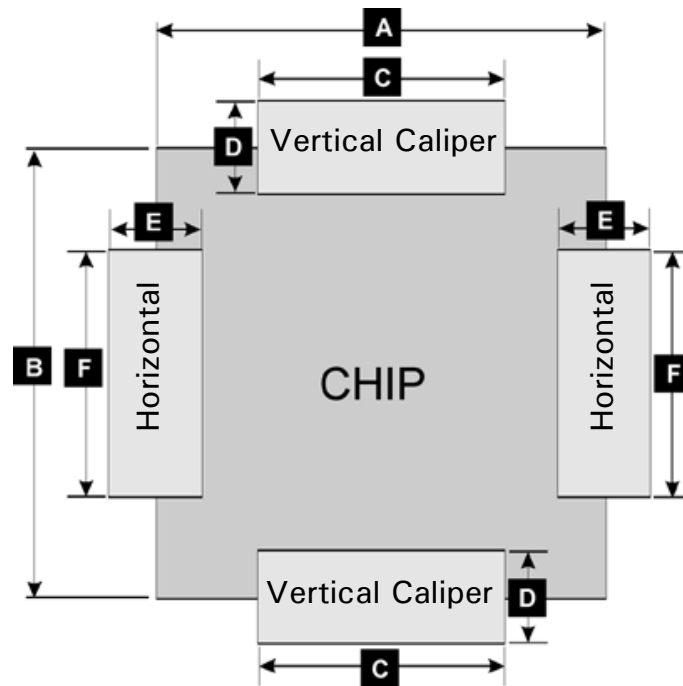

Figure 14-2
**Chip Width (A, Figure 14-2)** - The Width describes the chip size from side to side. Chip width must be within the **Min** and **Max** fields dimensions.
**Breadth (F, Figure 14-2)** - The **Breadth** value is the dimension of the caliper that is parallel to the edge of the chip.
The horizontal breadth = the percentage of the length of the chip (**B**, Figure 14-2) that you specify.
**Extension (E, Figure 14-2)** - The **Extension** value is the dimension of the caliper that is perpendicular to the edge of the chip.
The horizontal extension = the percentage of the length of the chip (**A**, Figure 14-2) that you specify.
**Breadth (C, Figure 14-2)** - The **Breadth** value is the dimension of the caliper that is parallel to the edge of the chip.
The vertical breadth = the percentage of the length of the chip (**A**, Figure 14-2) that you specify.
**Extension (D, Figure 14-2)** - The **Extension** value is the dimension of the caliper that is perpendicular to the edge of the chip.
The vertical extension = the percentage of the length of the chip (**B**, Figure 14-2) that you specify.